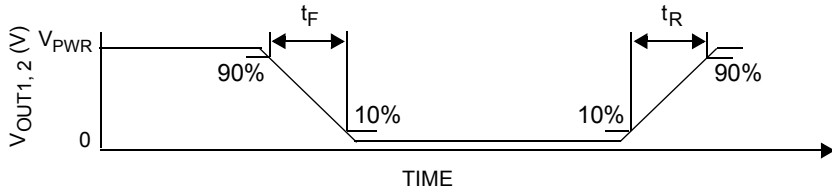

Figure 6. Output Switching Time
27. Rise Time is from the 10% to the 90% level and Fall Time is from the 90% to the 10% level of the output signal with  $V_{\text{PWR}} = 14\text{ V}$ ,  $R_{\text{LOAD}} = 3.0\text{ ohm}$ . See Figure 6, page 11.